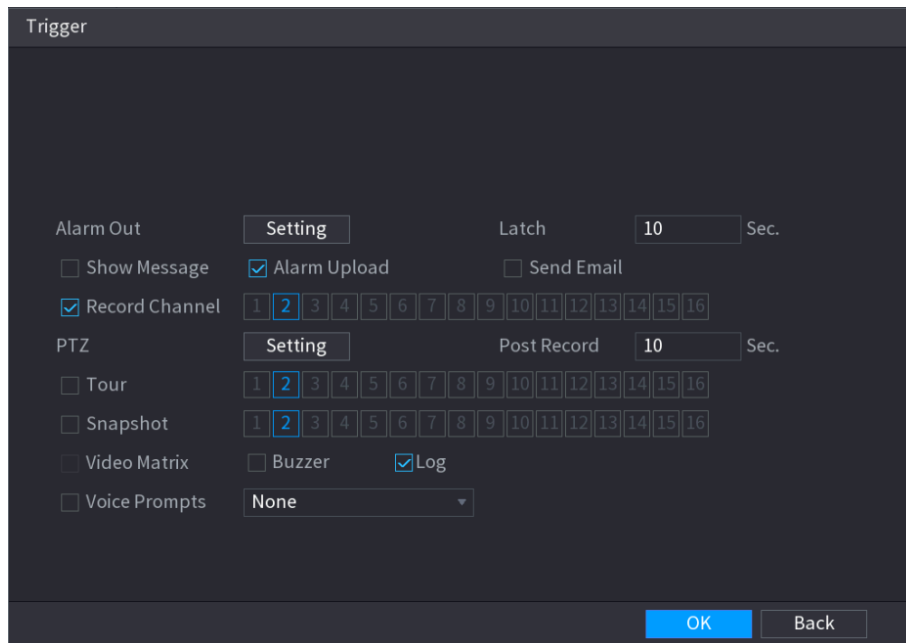

Figure 5-152
- Click  to set the alarm linkage. See Figure 5-152. For details, see Table 5-49. After setting is completed, click **OK**.